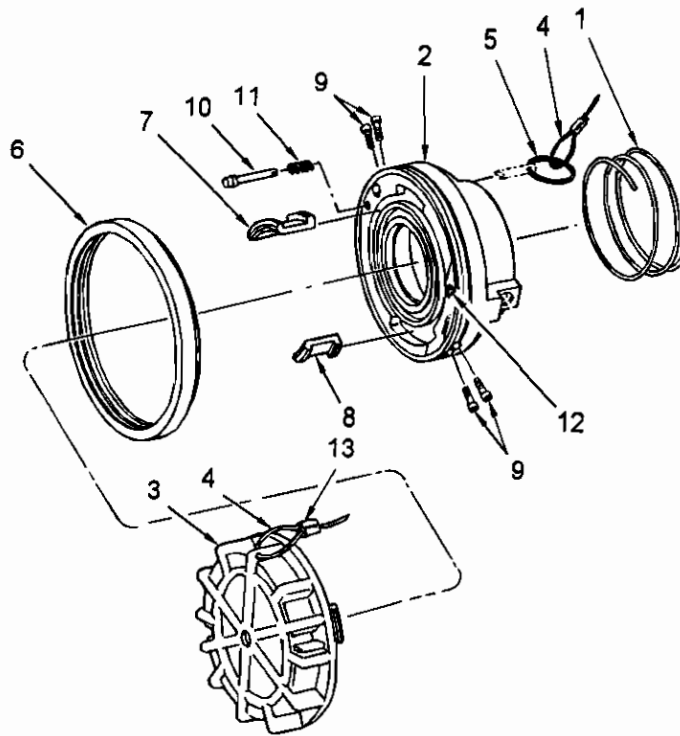

Figure 4-10. Repair of Two Inch Non-Valved Unisex Coupling
4.8.9 REPAIR TWO-INCH NON-VALVED UNISEX COUPLING. (Refer to figure 4-10.)